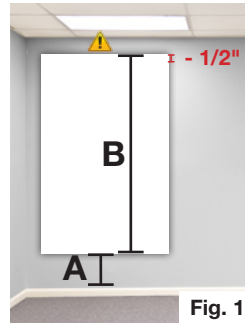

Fig. 1
- Measure the distance (A) from the floor to desired bottom edge of your WhiteWalls® panel. Add panel height (B) and *subtract* 1/2 inch. Mark wall at this height. (Fig. 1)